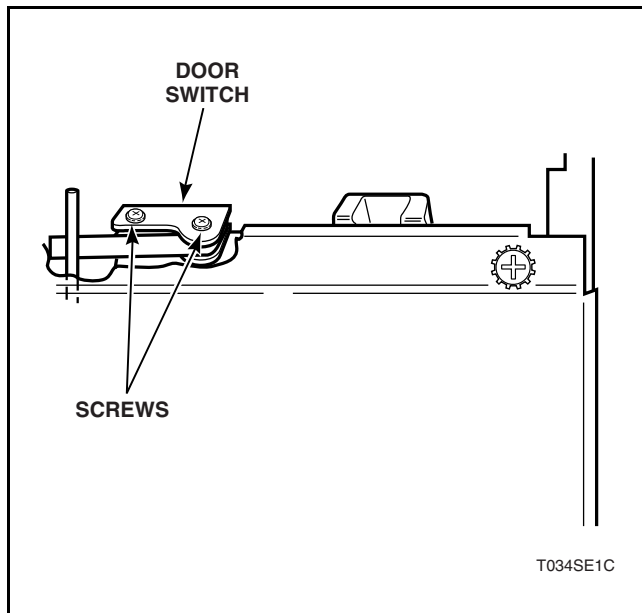

Figure 25
- Remove two switch attaching screws and remove switch. Refer to *Figure 25*.